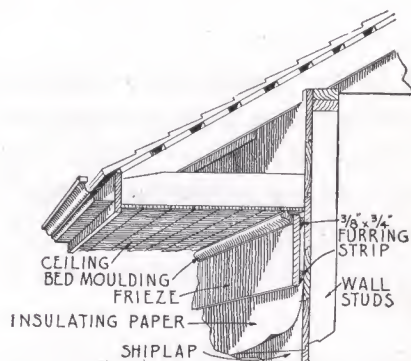
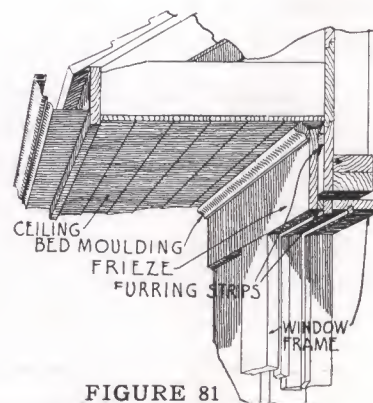

FIGURE 80
FIGURE 81
- (b) The frieze is a $\frac{3}{4}$ -inch thick piece which fits against the shiplap and up under the cornice (see Figure 80). This frieze must be furred out with two $\frac{3}{8}$ "x $\frac{3}{4}$ " furring strips laid flat against the shiplap. These furring strips run in the same direction as the frieze, one being placed about 1 inch above the bottom of the frieze and the other about 1 inch down from the top. This allows the top piece of siding or wall shingles to slide up under the frieze. Where the frieze forms the head casing to a window or door frame, the lower piece of furring must be brought down so that it is even with the bottom of the frieze (see Figure 81). When a frieze runs up the slope of a gable end, the lower furring strip must also be even with the bottom of the frieze. This will make a tight joint where the ends of the siding butt up against it.
Cover the joint between the frieze and the cornice ceiling with a bed moulding of the design number shown on the WALL SECTION. (See Figures 80 and 81.)